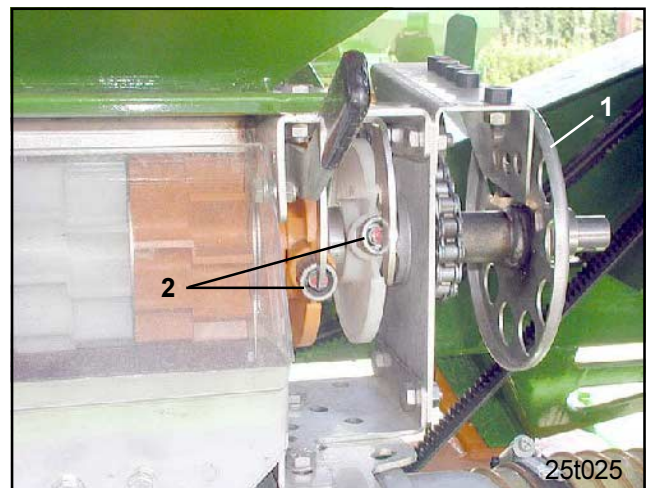

Fig. 10.7
- turn the hand wheel (Fig. 10.7/1) until the knurled bolts (Fig. 10.7/2) can be seen
- turn hand wheel (Fig. 10.7/1) until the knurled bolts (Fig. 10.7/2) can be seen